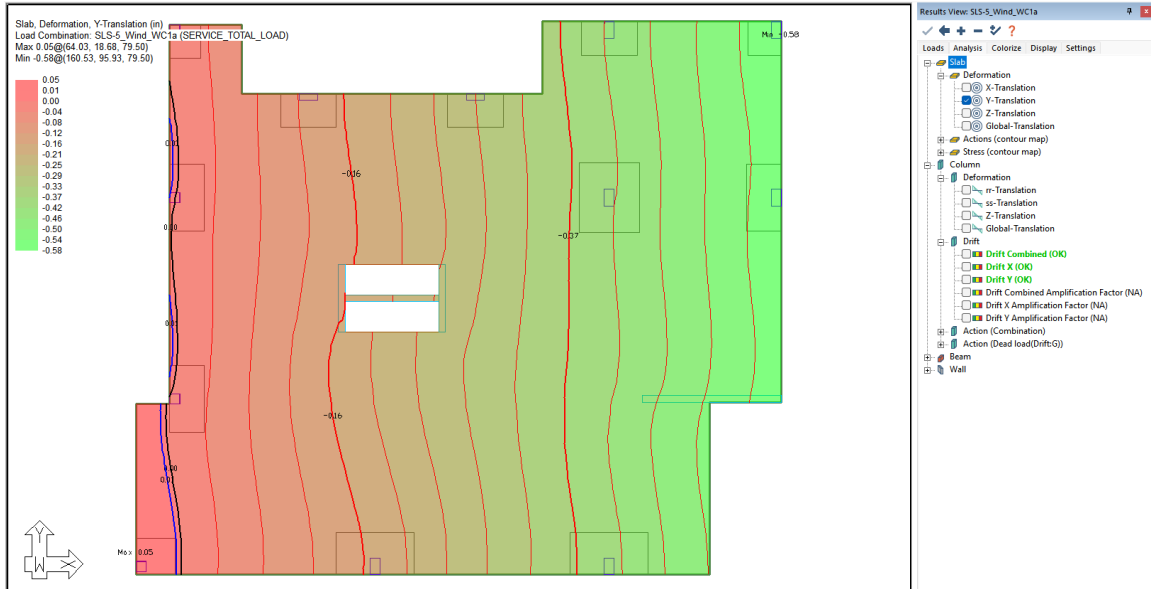

FIGURE 13-11
- Select **Y-Translation**, as shown in **FIGURE 13-11**.